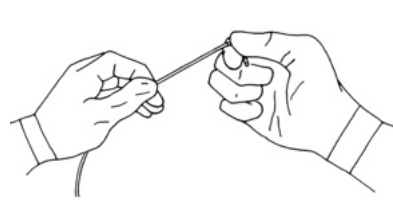

Fig. 3: tip bending
- Under fluoroscopy, insert the catheter through the introducer and reach the extradural epidural space. Place the lead tip with the electrodes in the area affected by the treatment. To facilitate the placing procedure, you can slightly bend the catheter tip near the electrodes by using only your fingers (fig. 3) and perform this manipulation only with the stylet inserted.